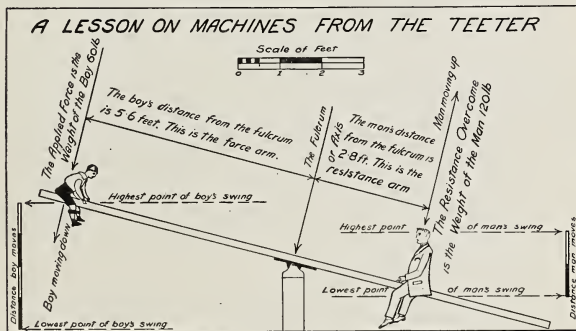

Fig. 132
*Exercise on Machines*—Study carefully the diagram of a teeter shown in Fig. 132, and answer the following questions: